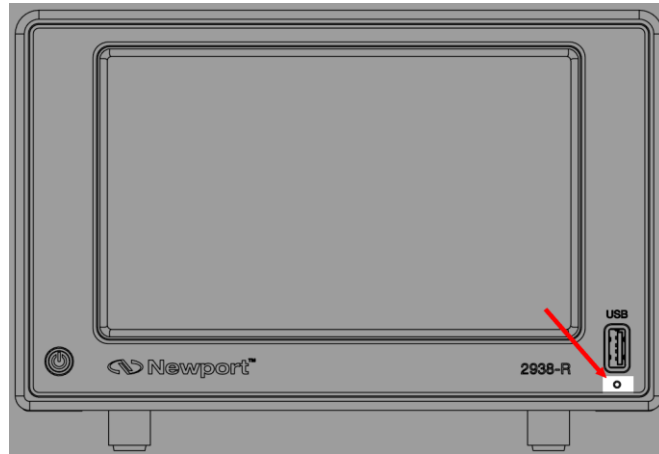

Figure 4-19 Right side of x938 Meter with pinhole highlighted
4. Insert a pin in the pinhole (see Figure 4-19) to access the micro-switch.